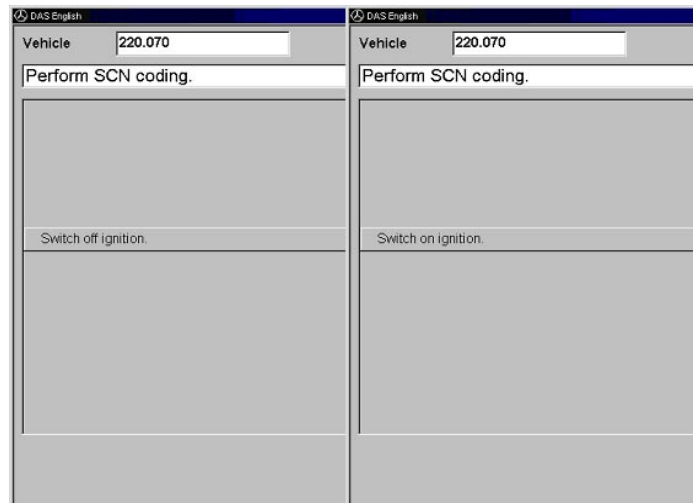

Figure 5
- Switch ignition ‘Off/On’ as instructed. (Figure 5)